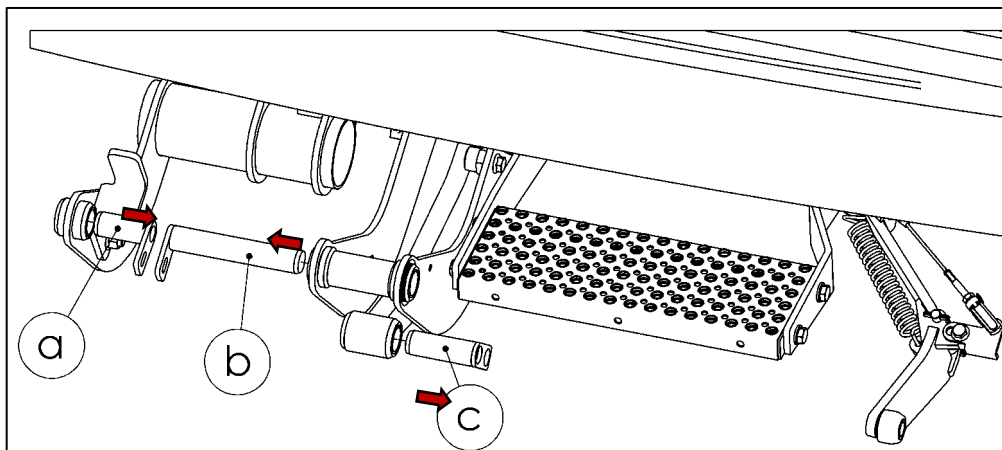

Fig. 50
- Remove the pins (a, b, c) (see Fig. 50).